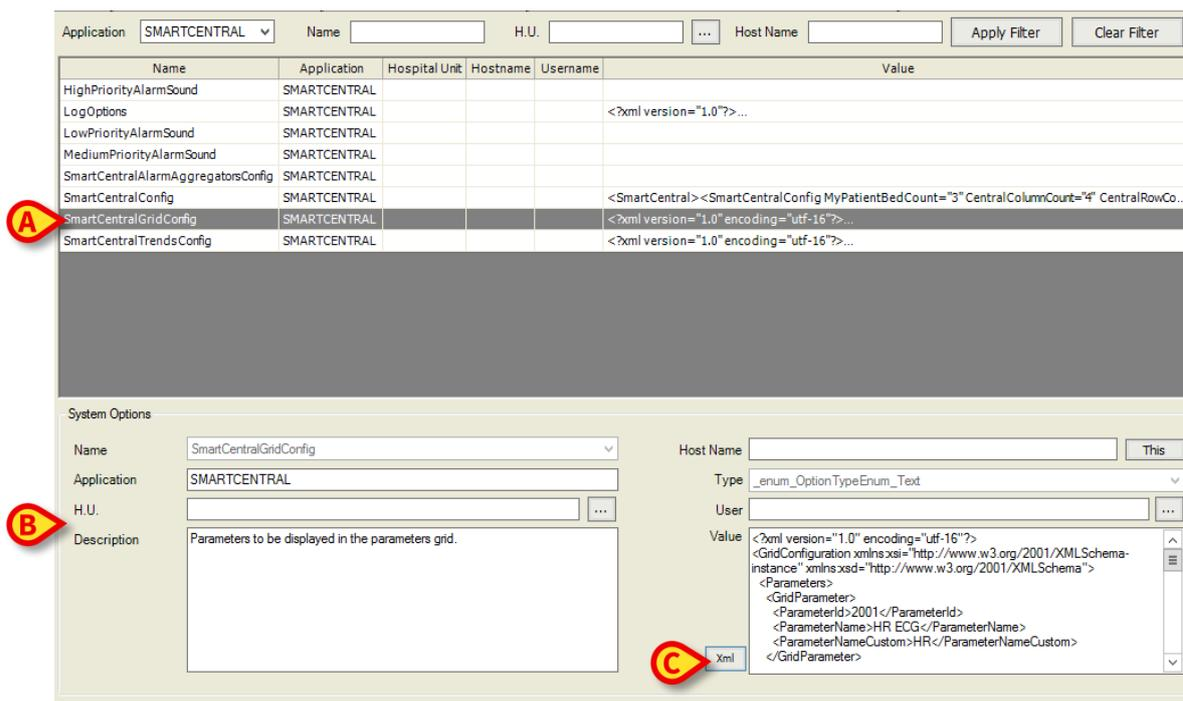

Fig 43
1. Click the SmartCentralGridConfig system option on the list of system options displayed on screen (Fig 43 **A**).
The corresponding row is highlighted, the system option details are displayed on the lower area of the screen (Fig 43 **B**).
2. Click the **Xml** button indicated in Fig 43 **C**. The following window opens (Fig 44).